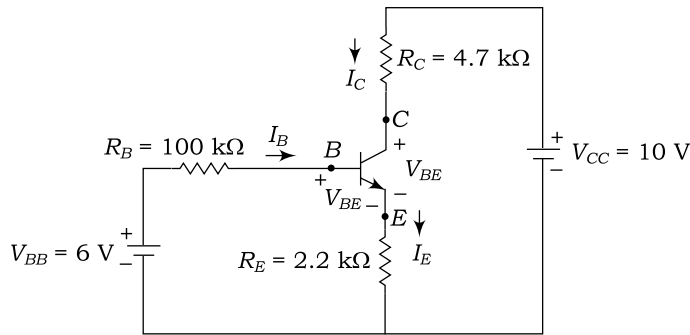

Fig. 2.109
30. Figure 2.109 shows an *NPN* transistor circuit. If the voltage across the base emitter is $V_{BE} = 0.6 \text{ V}$ and the voltage between collector emitter terminals is $V_{CE} = 0.35 \text{ V}$ and dc current gain $\beta = 80$. Find the operation mode of the transistor.